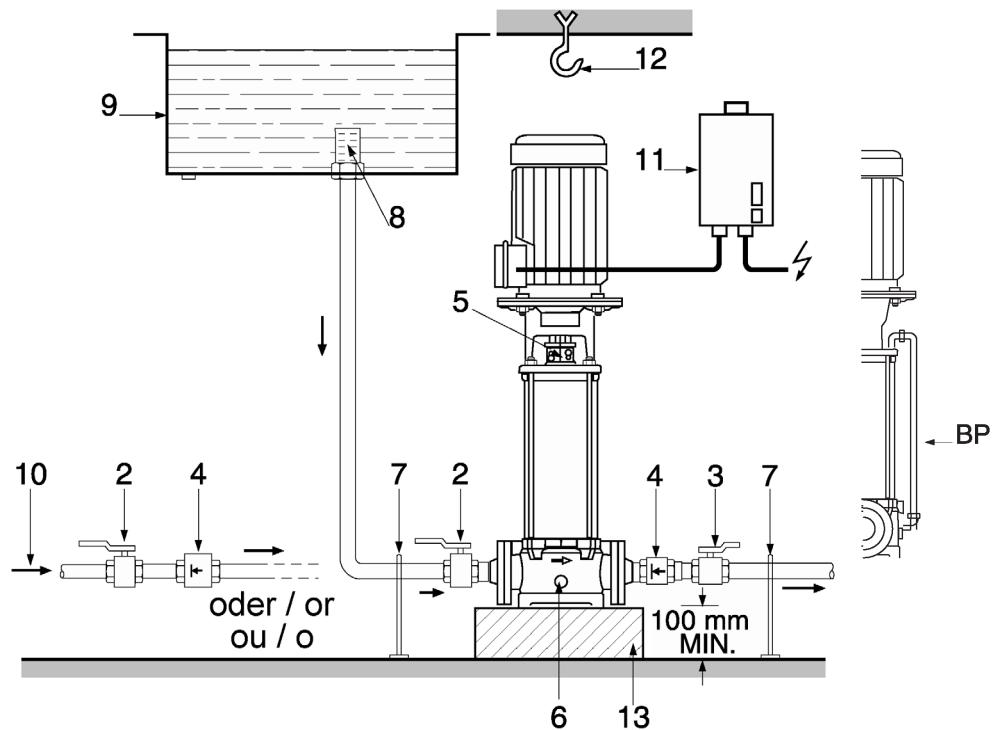

Fig. 3
### Principal dimensions and connection dimensions (Table 2, see also Fig. 3):
- Dimensions for installation and connections are given in Paragraph 1.2.1, Table 2 and in Fig. 3.